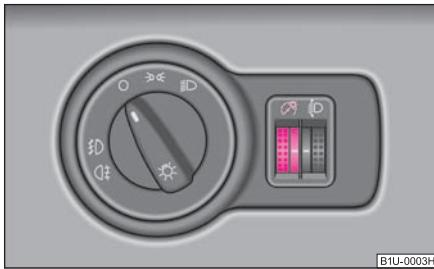

Fig. 42 Dash panel: Instrument lighting
- Turn the control dial ⇒ fig. 42 to the desired intensity of the instrument lighting. ■